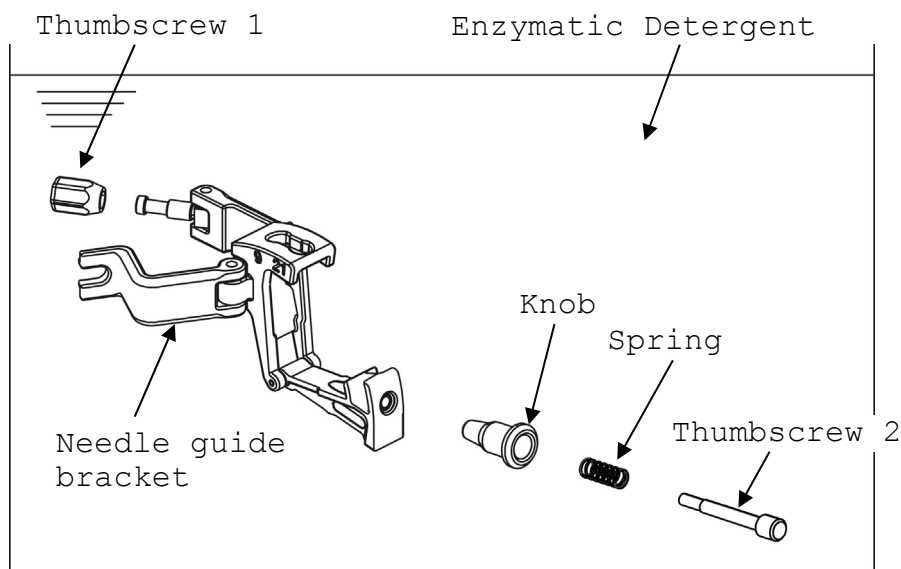

Fig.5 Immersion of the Needle Guide Bracket
- 3) Immerse the needle guide bracket and thumbscrew 1, thumbscrew 2, spring and knob in the enzymatic detergent solution. (See Fig.5) Follow the instructions of the detergent manufacturer regarding usage, dilution and contact-time of the detergent solution. In the enzymatic detergent remove foreign matters with soft cloth or sponge. Clean the groove and hole of the guide bracket with attached brush.
- 3) Immerse the needle guide bracket in the disinfectant for a time period of the contact-time (See Fig.5).